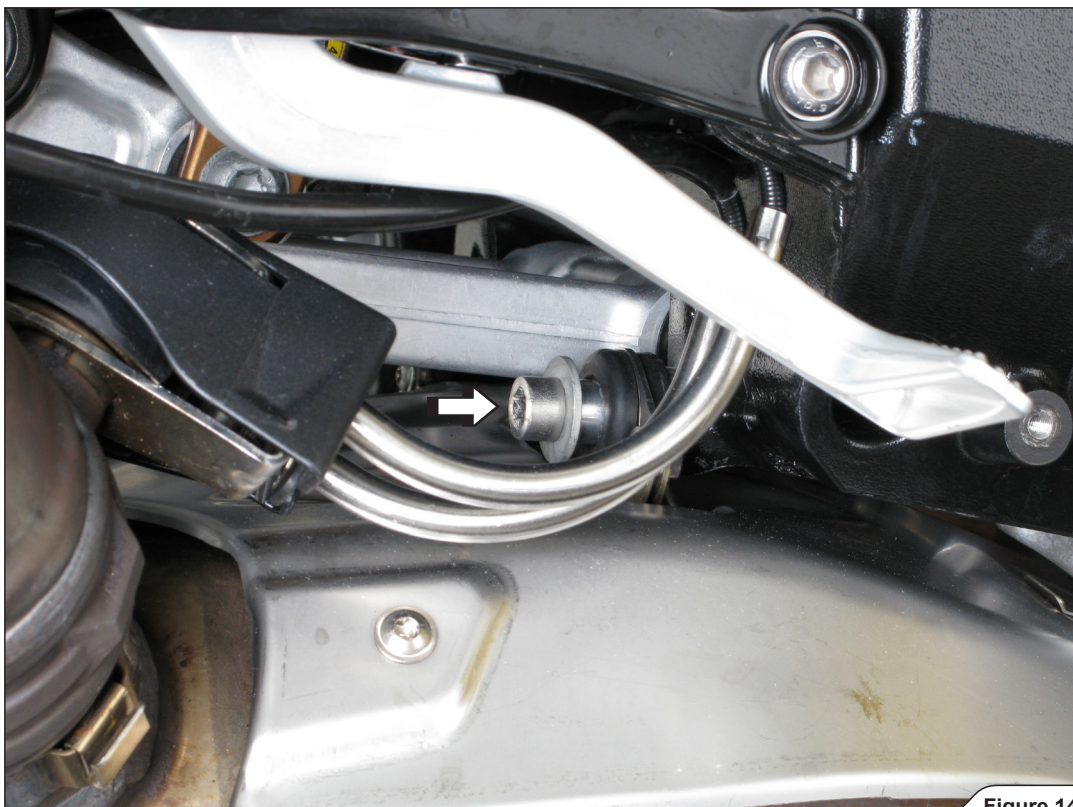

Figure 14
13. Unscrew the market bolt on both sides of the motorcycle and remove the stock exhaust off the motorcycle (Figure 14, 15).